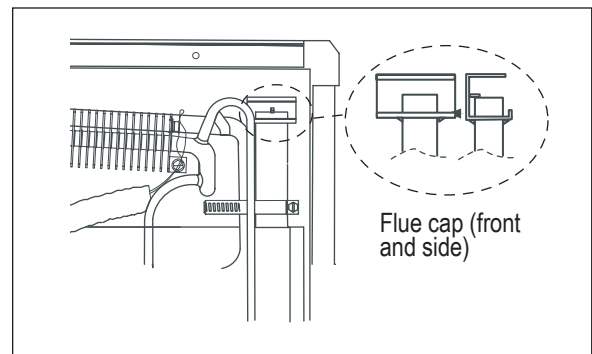

Figure 8. Protecting the Flue Cap
3. Still with assistance, take care not to bend or collapse the flue cap (Refer to Figure 8.) as you lift the refrigerator into the enclosure and carefully push it back to fit evenly with the front of the enclosure.